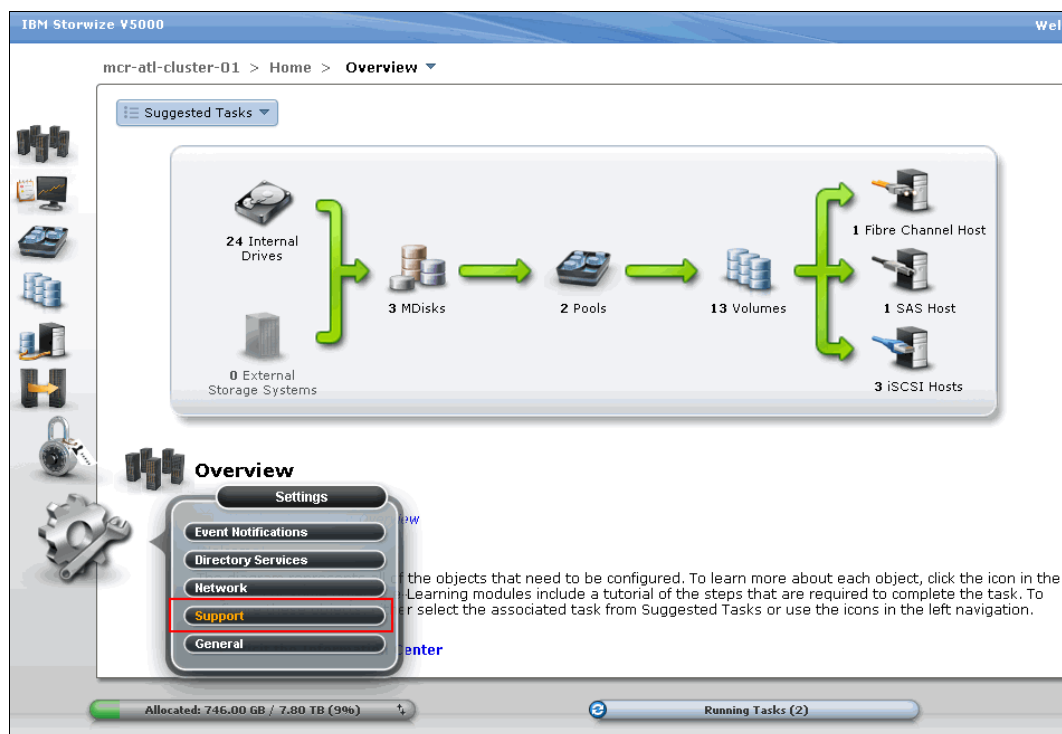

Figure 9-22 Settings menu
1. Click **Settings** → **Support**, as shown in Figure 9-22.